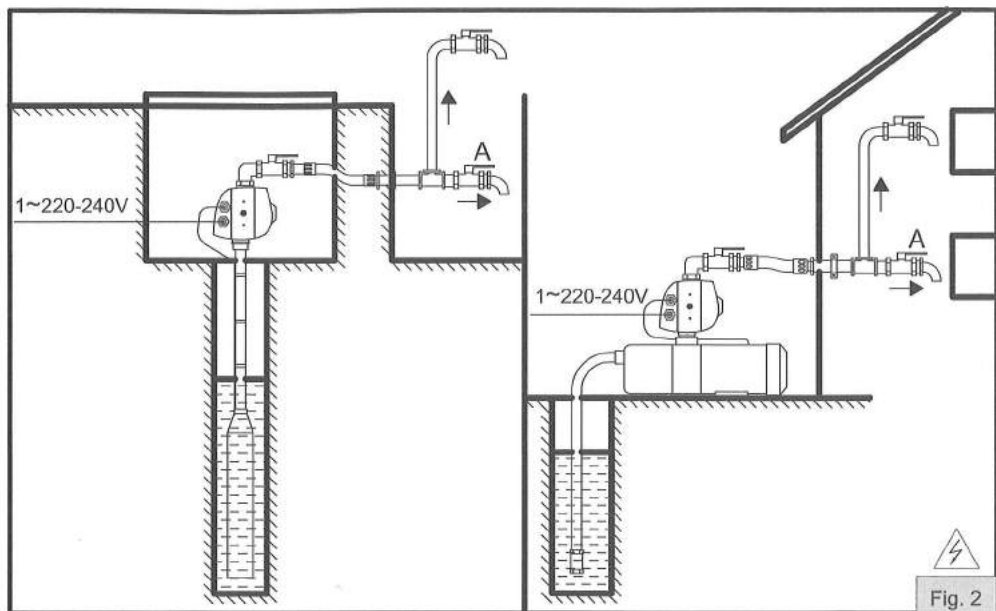

Fig. 2
! HYDRAULIC CONNECTION (FIG.2)
- A) The pump is not primed; the protection against dry running operation has stepped in and the FAILURE led is on: prime the water pipe, drain the system water by opening tap (A) on the same level as **Formula_{press}** to decrease the pressure of the water column over it (FIG.2), and check by pressing the manual start button (RESET).
- B) Pump is blocked: led (FAILURE) is on, the security system is activated. When we act on the manual start switch (RESET) the led (ON) is activated but the pump does not work: contact with your dealer.